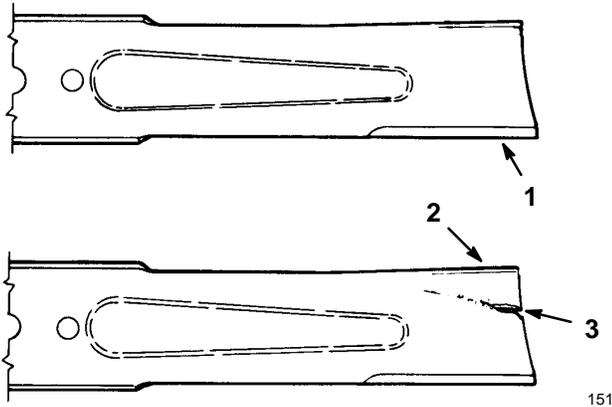

Figure 35
2. Inspect the cutting edges (Fig. 35). If the edges are not sharp or have nicks, remove the blade(s) and sharpen them; refer to Sharpening the Blade(s), page 36.
3. Inspect the blade(s), especially the curved area (Fig. 35). If you notice any damage, wear, or a slot forming in this area (Fig. 35), immediately install a new blade.